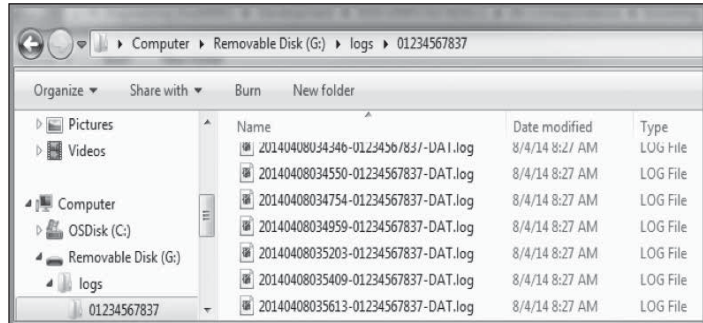

Figure 50. Log file directory on USB drive
- Plug the USB drive into the USB Host port (see **Figure 50**). Within 10 seconds, the module should recognize the USB drive and the OK LED should flash red-green. If the module does not recognize the USB drive, check to make sure that the drive is formatted with FAT file system and that it contains a directory named “logs”.